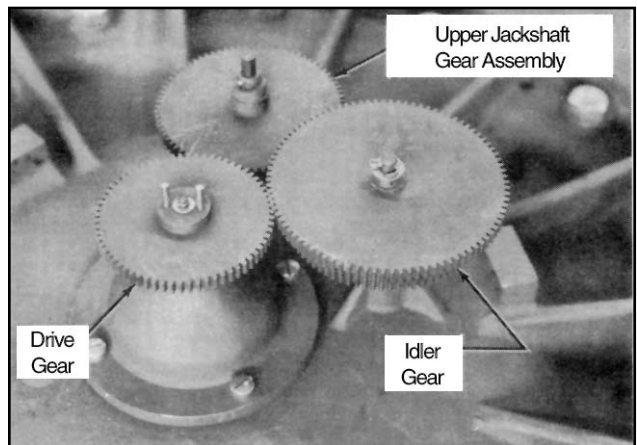

Figure 7
6. Figure 7 shows the gear train as it appears on the inner unit cover of an M16 meter.